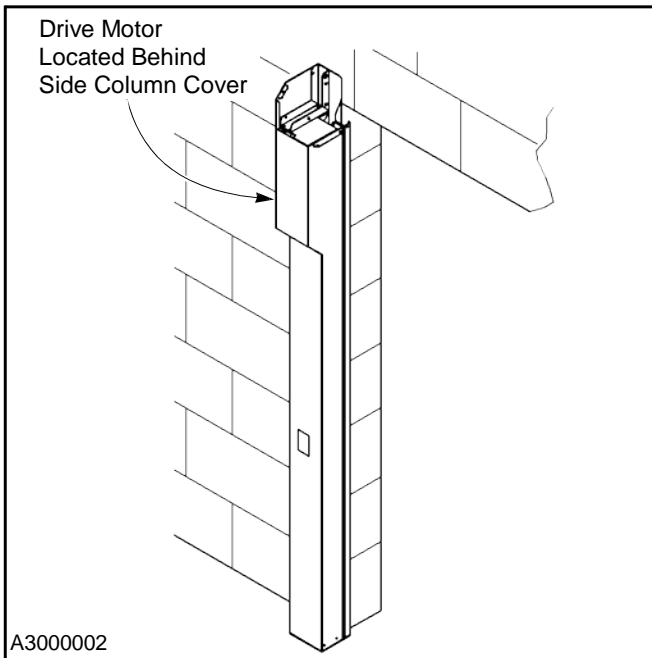

Figure 11
1. Remove the drive motor side column from the shipping crate. The drive motor side column is identified by the oversized protrusion near the top of the column. (See Figure 11.)